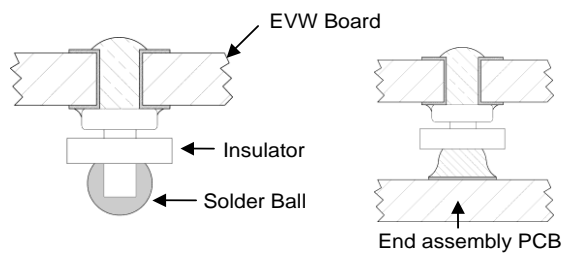

Figure 21. Column Pin Connector Before and After Reflow Soldering.
The surface mountable modules in the EVW family use our newest SMT technology called “Column Pin” (CP) connectors. Figure 21 shows the new CP connector before and after reflow soldering onto the end-board assembly.